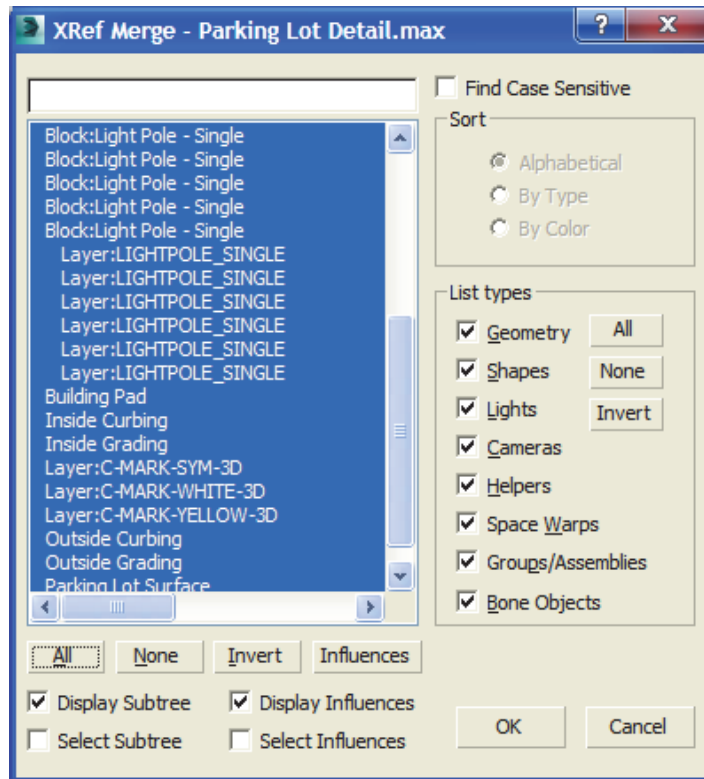

Figure 3–44
11. The Duplicate Material Name dialog box opens prompting you that there is an incoming material with the same name as an existing scene material. Select **Apply to All Duplicates**, as shown in Figure 3–45, to keep both materials and click